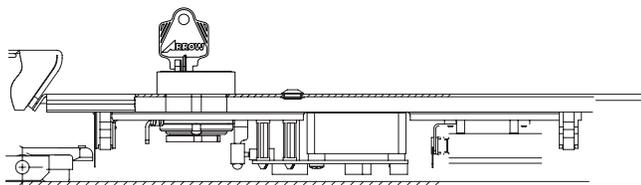

Figure 11
1. Remove insert assembly from rail by sliding toward rail end (Figure 11).